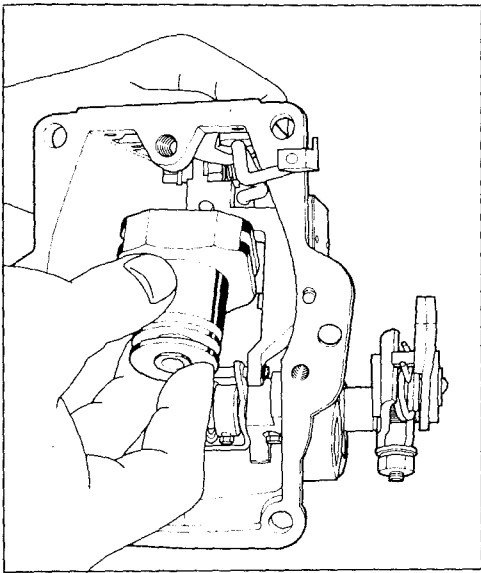

FIGURE 2-17
- (4) Disengage governor sleeve assembly from fulcrum lever pivot pins to remove governor sleeve, thrust washer(s) and thrust bearing from governor housing. Refer to figure 2-17.